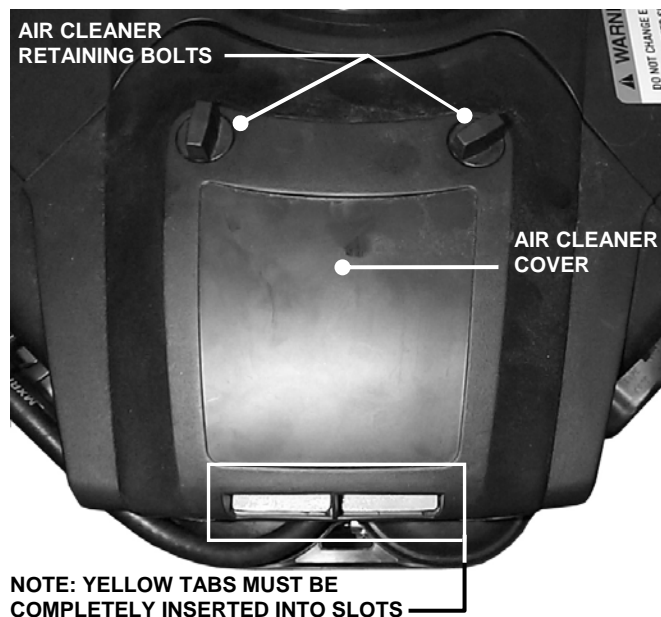

FIGURE 3.4
- 20 Hp Engines:** Change air filter. Remove bolts that secure air cleaner cover. See Figure 3.4.